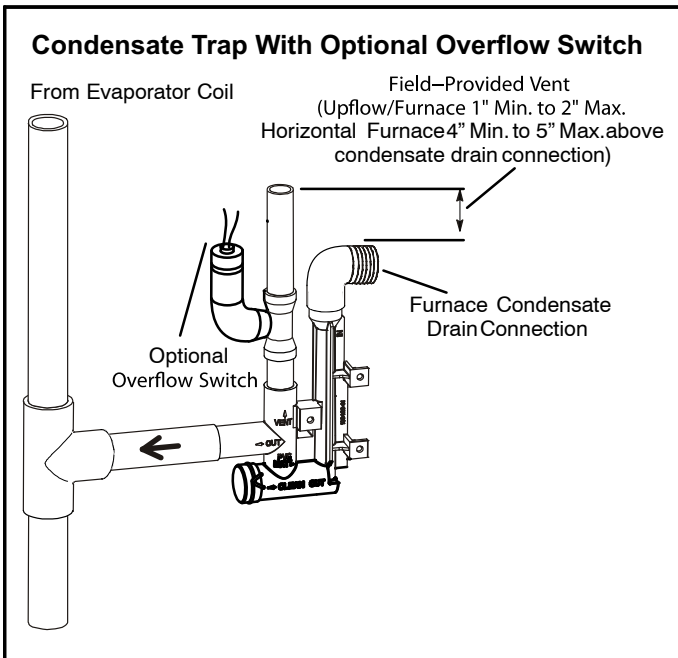
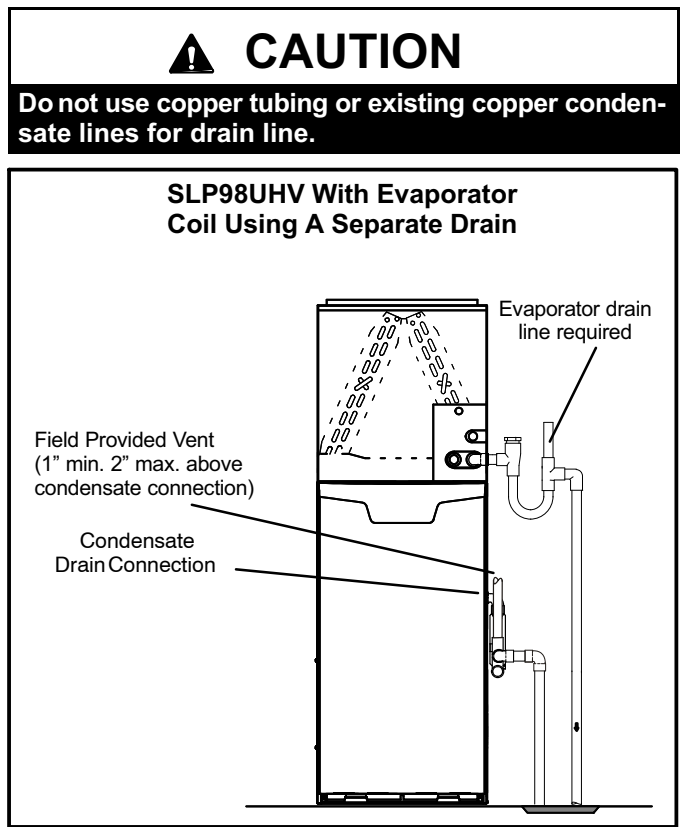

FIGURE 41
FIGURE 42
- 5 - Figures 42 and 43 show the furnace and evaporator coil using a separate drain. If necessary the condensate line from the furnace and evaporator coil can drain together. See figures 41, 44 and 45.